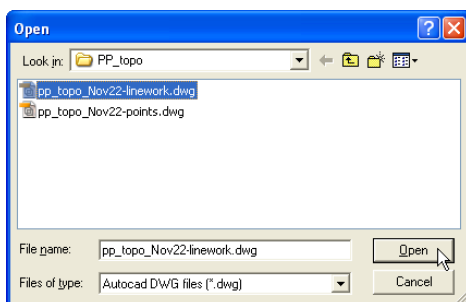

Figure 4-3. Open AutoCAD 3D Linework File
2. On the Open dialog box, navigate to the location of the desired file, select it, and click Open (Figure 4-3).